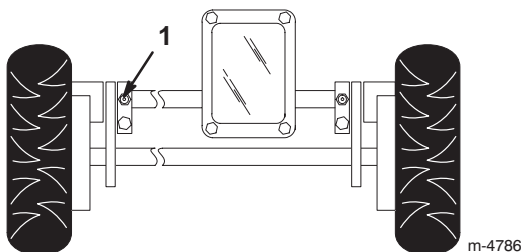

Figure 22
1. Wipe the grease fittings with a clean rag (Fig. 22).